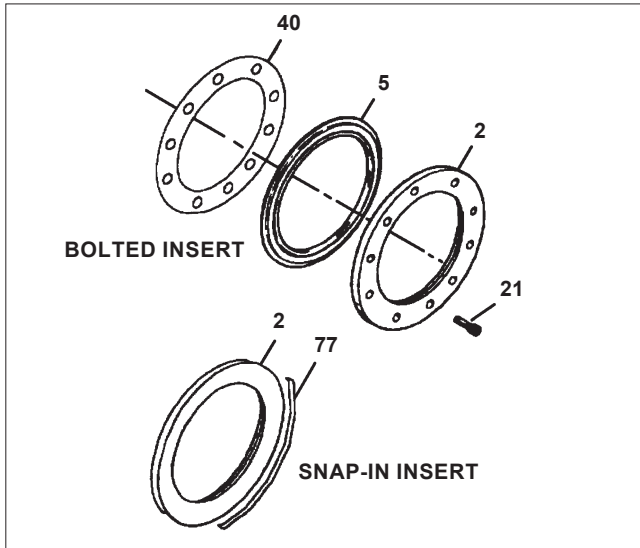

Figure 9.
10. Verify that the disc is in the level position. Install new seat and insert (See Figure 9 & 10). For bolted inserts, install the insert screws, and tighten them uniformly. Torque values are given in (Table 1). Whenever possible, open the valve and retorque the insert screws per (Table 1). Take care not to damage the sealing edge of the disc. Close the valve. For